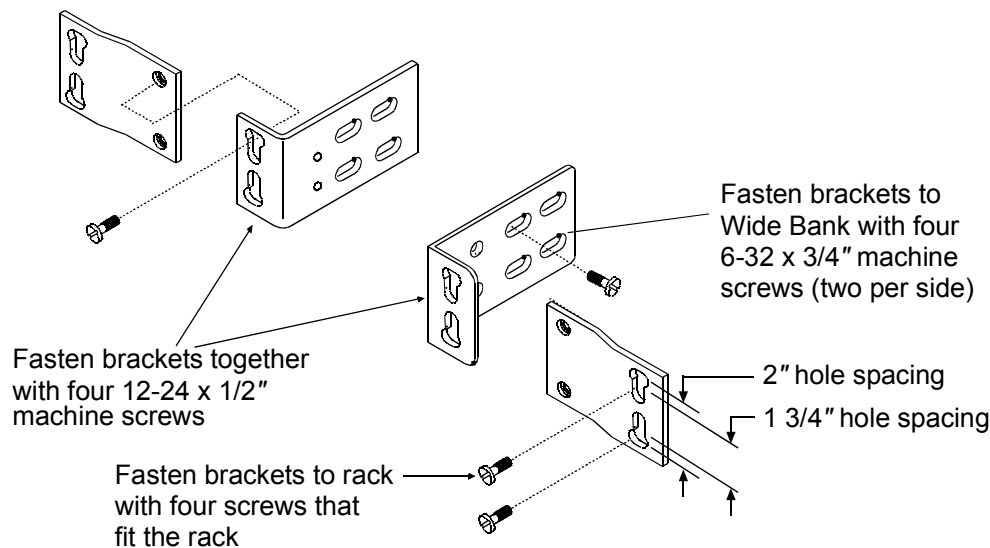
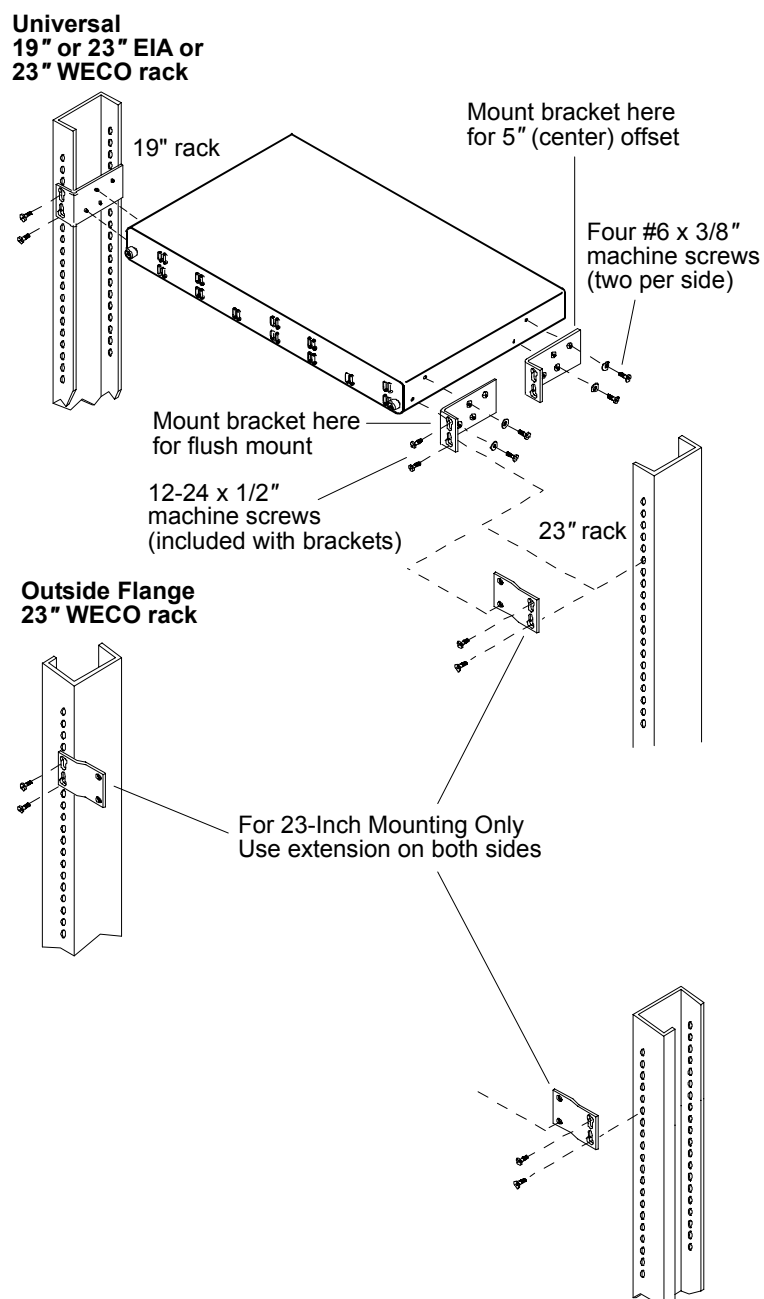

Figure 4-1 Universal Rack-Mounting (19-inch or 23-inch) Brackets (PN 710-0153)
Figure 4-2 Attaching Brackets to 19-inch or 23-inch Racks
1. There are two bracket parts with right-angle bends (see Figure 4-1). Mount one of these on each side of the Wide Bank to obtain the desired offset, as shown in Figure 4-2, using the #6 x 3/8-inch mounting screws provided. Use the Wide Bank mounting holes nearest the front of the unit to produce a typical flush mounting. Use the Wide Bank mounting holes nearest the rear of the unit for a 5-inch or center offset to the front.
2. If you are mounting the Wide Bank in a 23-inch rack, fasten the other two bracket pieces to the previously-mounted brackets, as shown in Figure 4-1, using the four 10-32 x 3/4" machine screws provided.